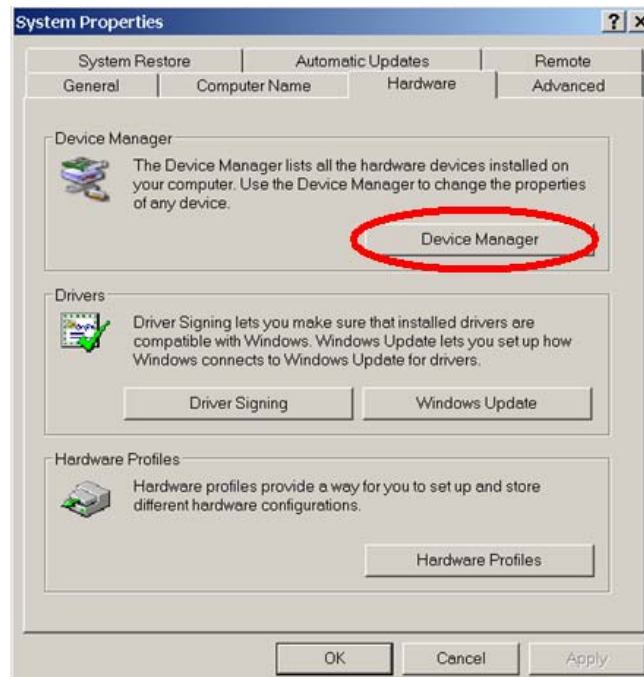

Figure 4 – Screen, Windows System Properties
- 3) In the **'System Properties'** window under the **'Hardware'** tab, click the **'Device Manager'** button as indicated in Figure 4.